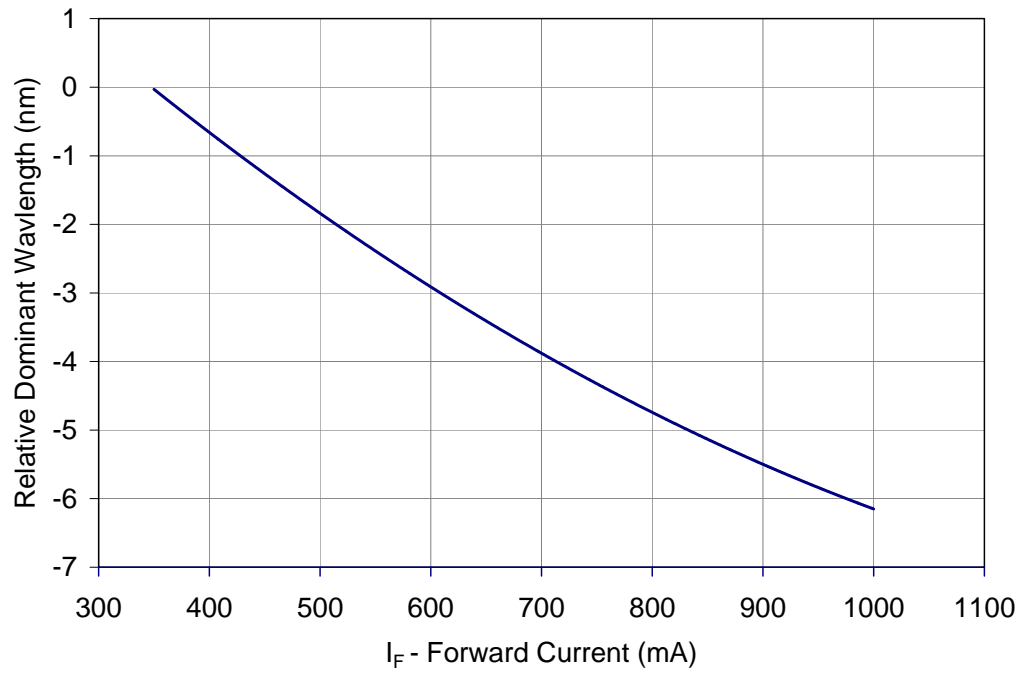

Figure 6: Typical relative dominant wavelength shift vs. forward current @ Tc = 25°C.
3. Refer to Figure 6 for typical dominant wavelength shift over forward current.
- Refer to Figure 6 for typical dominant wavelength shift over forward current.